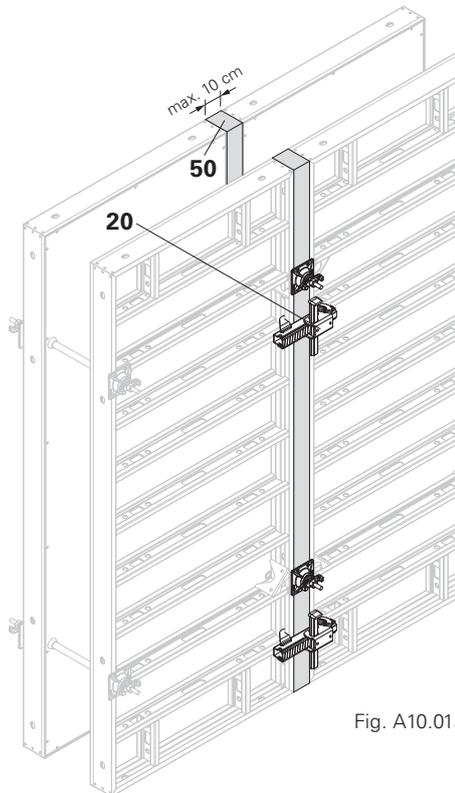

Fig. A10.01a
- Timber ≤ 10 cm with Alignment Coupler DRS (20) (Fig. A10.01a)